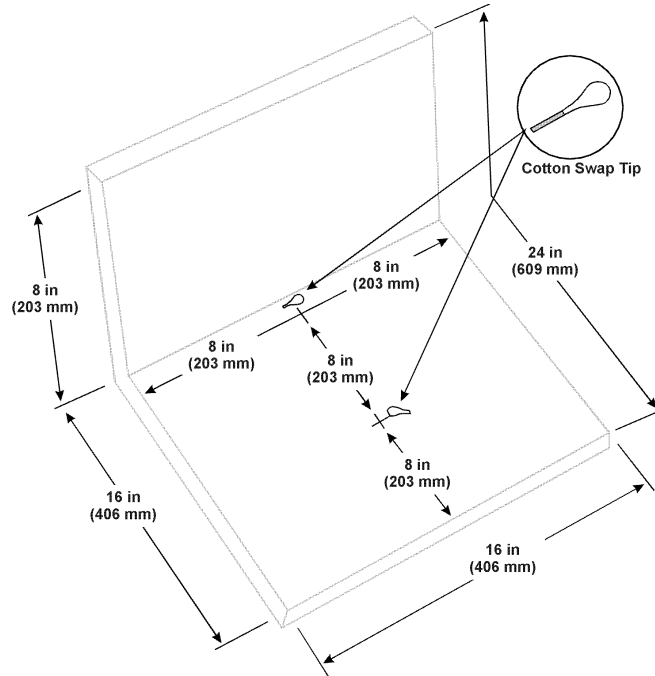

Figure 22-1. Cotton Swab Test Configuration
22.5.1 Prop the test blanket against a nonflammable surface in the position shown in figure 22-1. Make sure that the orientation is correct.